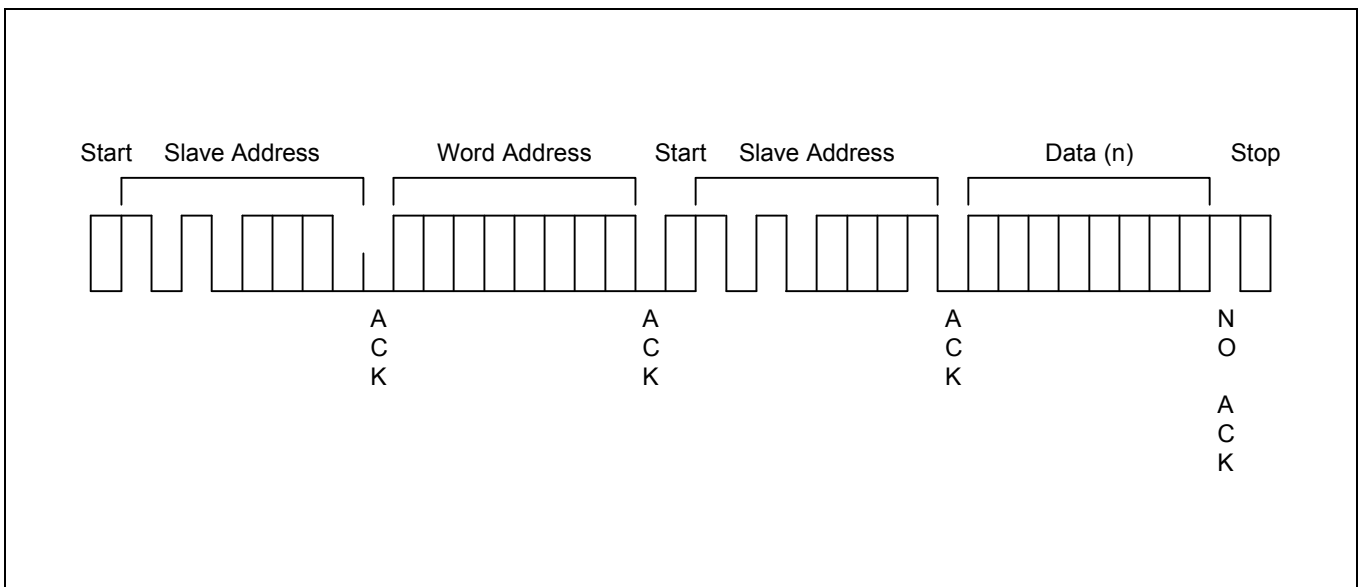

Figure 3-13. Random Address Byte Read Operation
5. In response, the 24LC08 stops transmitting data and reverts to its stand-by mode (see Figure 3-13).